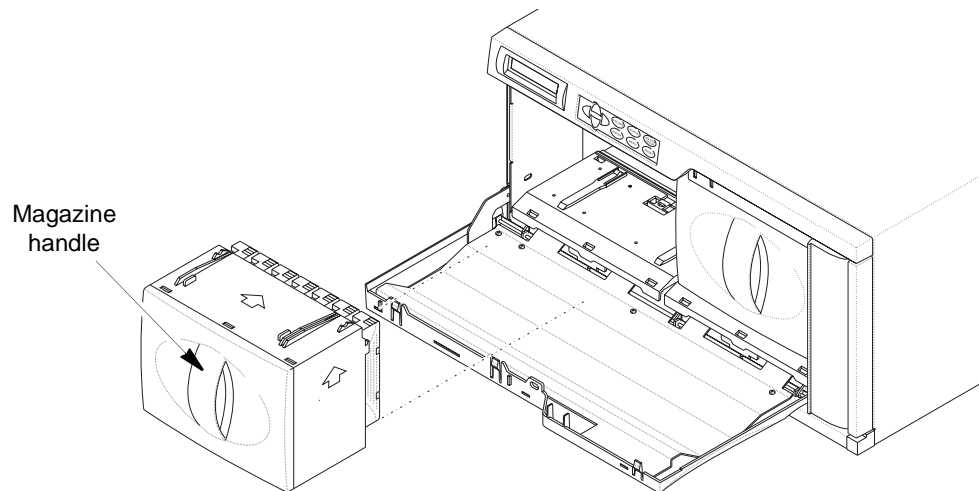

Figure 4-2 Removing a magazine
1. Remove each magazine by grasping the handle and pulling straight out, as shown in Figure 4-2.